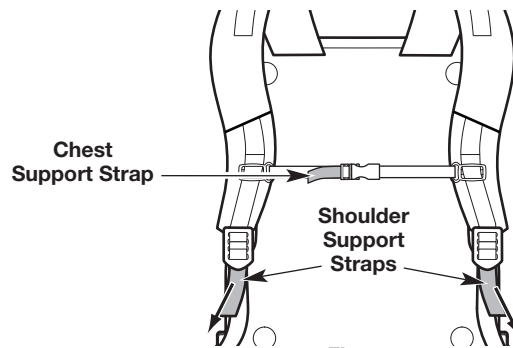

Fig. 11
- Pull the shoulder support straps down to tighten the shoulder supports (Fig. 11).
- Pull the chest support strap to the right to tighten the chest support (Fig. 11).